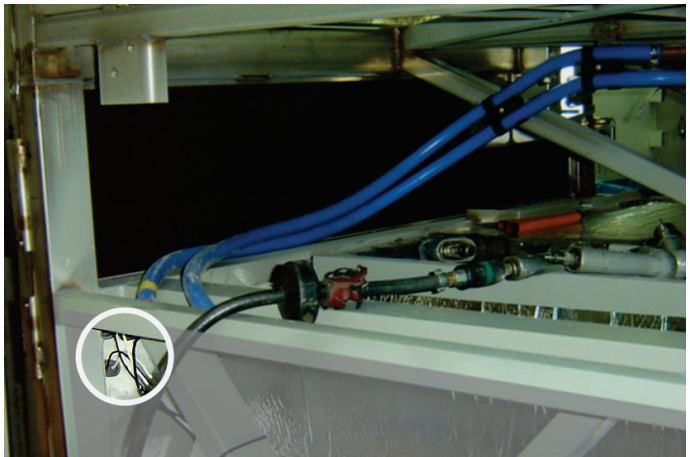

Figure 9
4. Unplug external connection to switch and pull cables inside vehicle by opening.(Fig. 9)